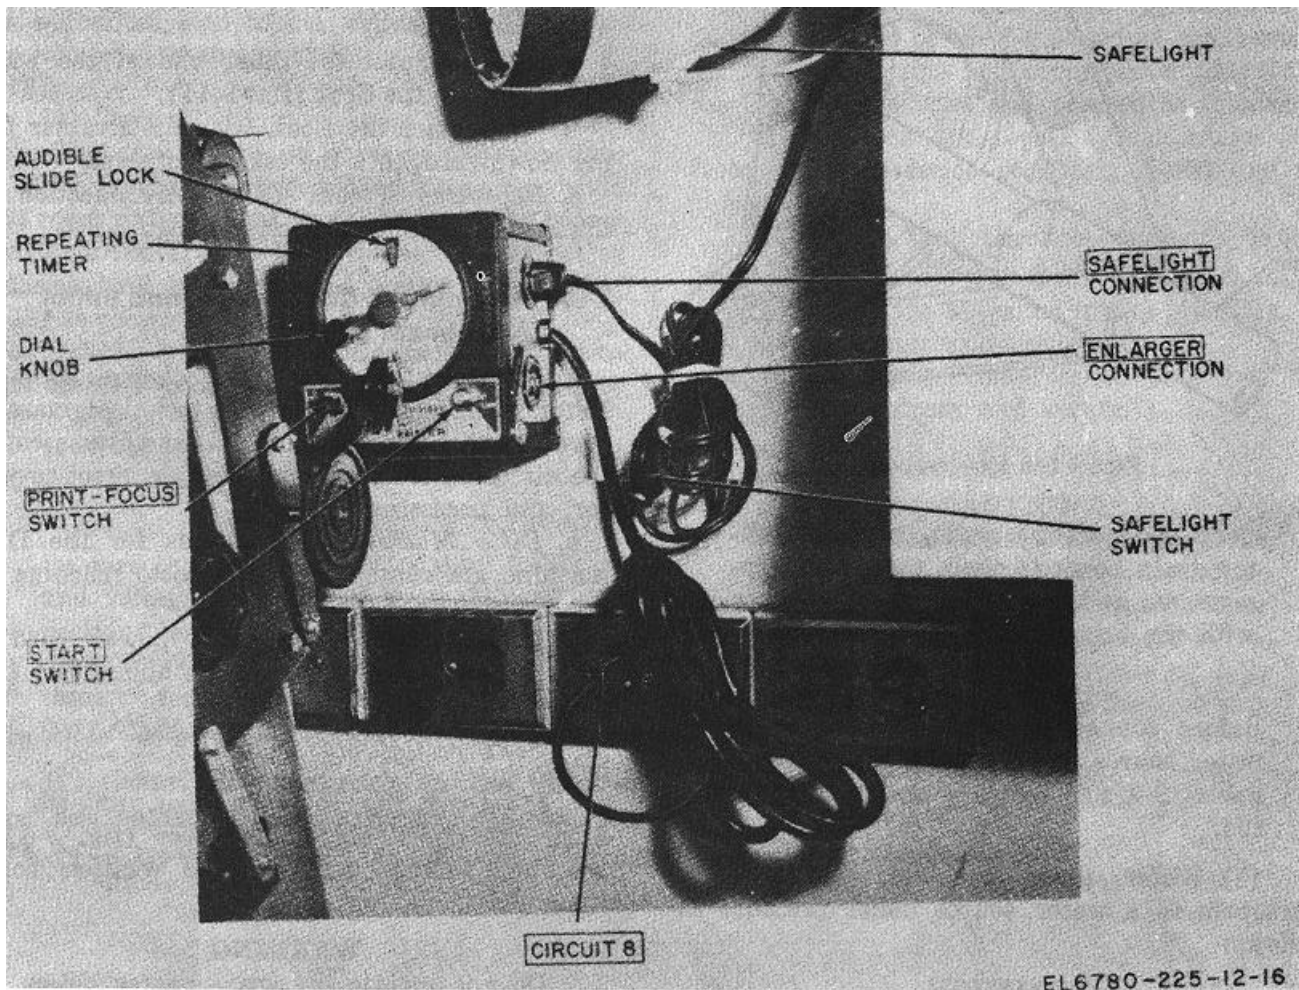

Figure 2-5. Repeating timer interconnection diagram.
(6) Turn all circuit breakers to the ON position. The darkroom is now ready for operation.
(7) Connect each repeating timer (curbside and roadside) mounted on the walls of the center compartment (fig. 5-2) between its respective enlarger and safelight, and circuit No. 8 (fig. 1-18) as shown in figure 2-5.
g. *Repeating Timer.* The interconnection of the repeating timer is shown in figure 2-5.